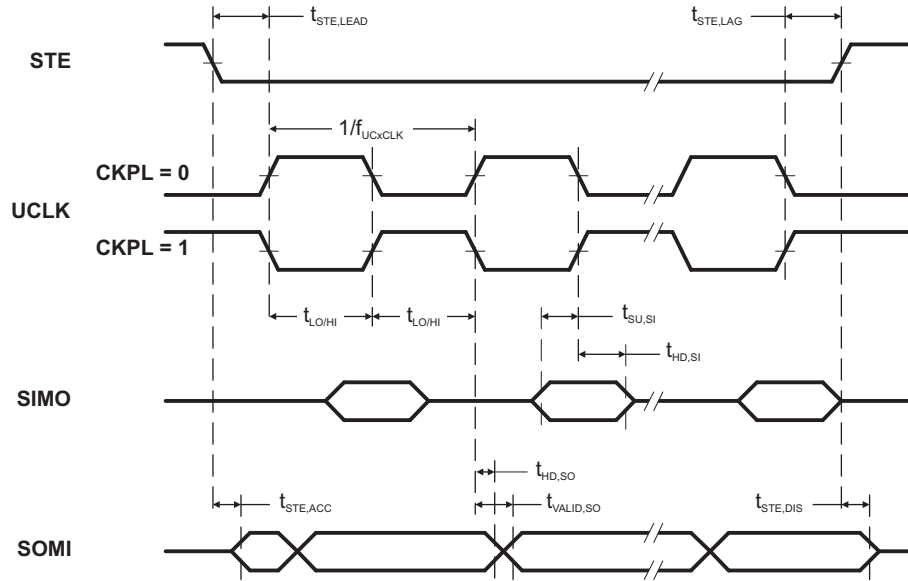
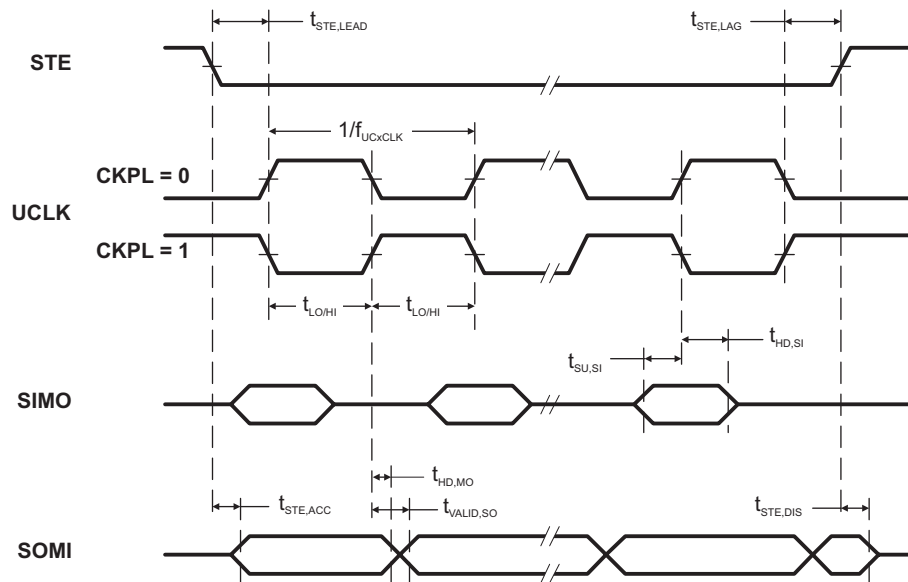

Figure 5-15. SPI Slave Mode, CKPH = 0
Figure 5-16. SPI Slave Mode, CKPH = 1
(see Figure 5-15 and Figure 5-16)
(2) Specifies the time to drive the next valid data to the SOMI output after the output changing UCLK clock edge. See the timing diagrams in Figure 5-15 and Figure 5-16.
(3) Specifies how long data on the SOMI output is valid after the output changing UCLK clock edge. See the timing diagrams in Figure 5-15 and Figure 5-16.